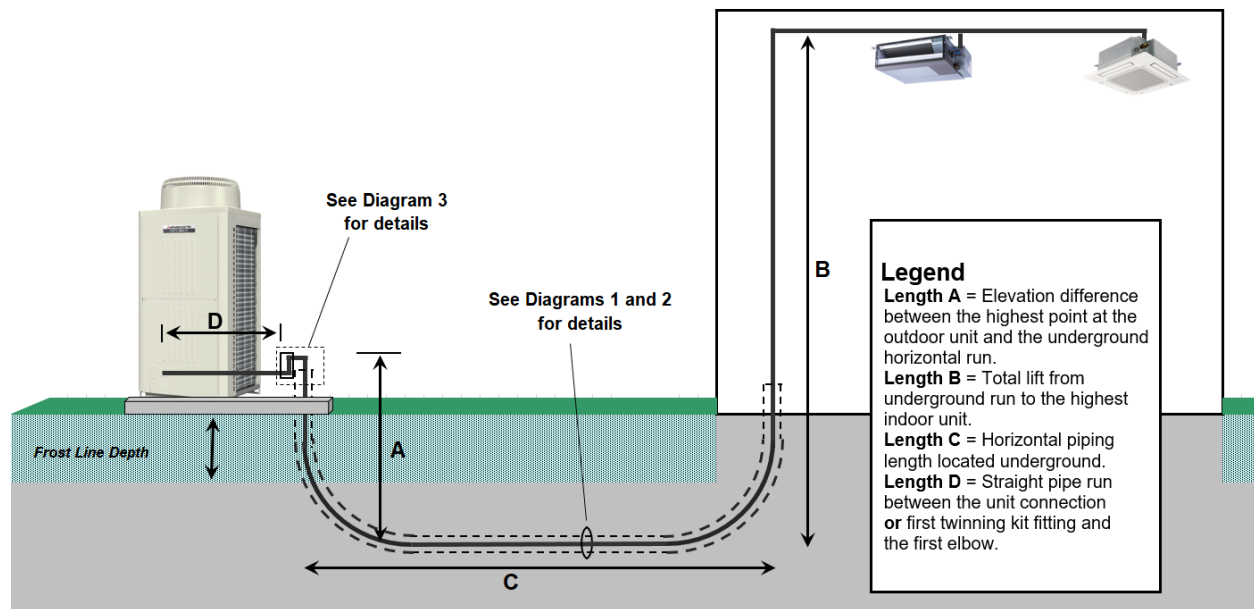

Figure 1: Underground Installation of Refrigerant Piping
- Include the sum of **Lengths A** and **B** (see Figure 1) in the calculation for maximum vertical lift for the respective unit. See the System Design Section in the Engineering Manual(s) to obtain the maximum allowable vertical lift.